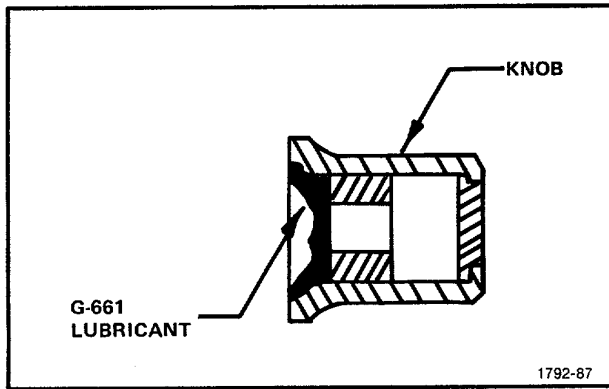

Figure 5-34. Lubrication of FOCUS and INTENSITY control knobs.
29. Install the FOCUS and INTENSITY knobs (see Fig. 5-34)
- 1. Apply G-661 lubricant to both knobs as shown in Fig. 5-34.